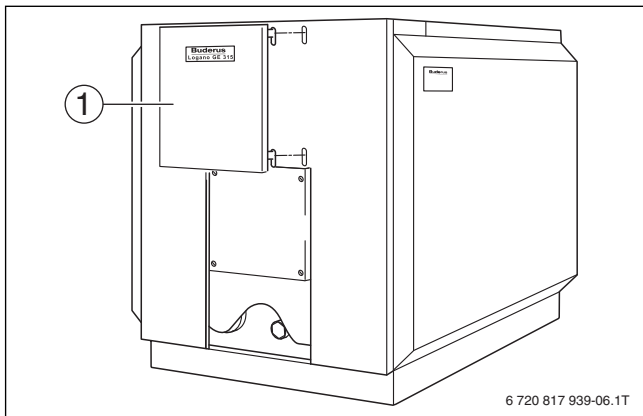

Fig. 44 Attaching the burner door panel
- ▶ Hook burner door panel into the cut-outs in the front cover (Fig. 44, [3]).